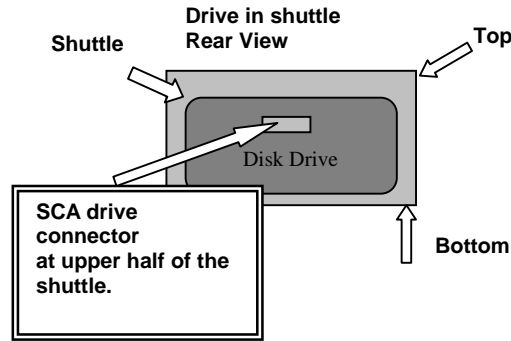

Figure 2. Drive Shuttle Rear Side View.
5. Position the disk drive so the rear 40 pin SCA drive connector is at the top side of the shuttle and that the rear of the drive is flush with the rear of the shuttle. (See **Figure 2.**)